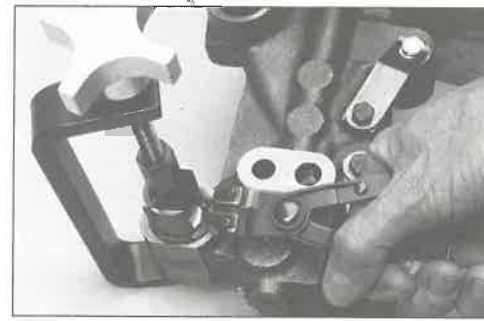

FIG. 40
5. Remove the retaining ring using retaining ring pliers (see Fig. 40). Back out the holder until the springs are loose. Remove the fixture.